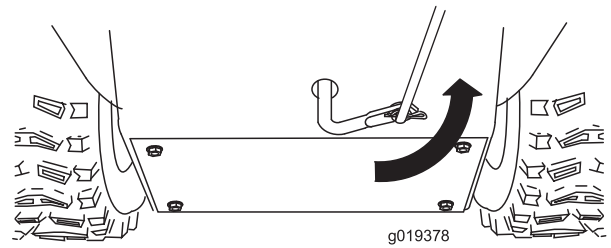

Figure 7
5. Rotate the lower link arm fully upward (counterclockwise) as shown in Figure 7.